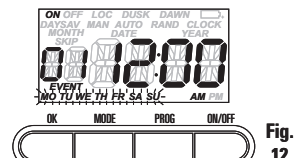

Fig. 12
- Press **PROG** to accept the event setting. The Days Of Week (DOW) display will begin to flash (Fig. 12).